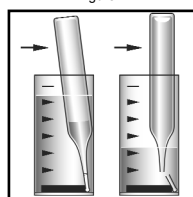

Figure 3
5. **Immediately** place the CHEMet ampoule, tip first, into the sample cup. Stir briefly to mix the contents of the cup, then snap the tip. The ampoule will fill leaving a bubble for mixing. Fig. 3